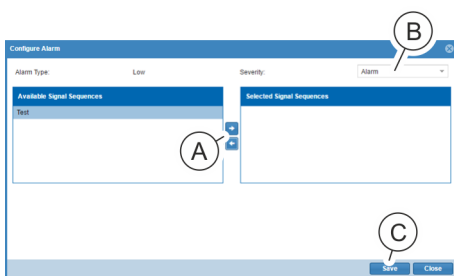

Fig. 131: “Configure alarm” window
8. ➔ Select a signal sequence in the “Configure alarm” window and use the “→” button (Fig. 131/Ⓐ) to move it into the “Selected signal sequences” field.
9. ➔ In the “Severity” selection field (Fig. 131/Ⓔ), select the alarm state “OK”, “Warning” or “Alarm” for the input.
10. ➔ Confirm the selection by clicking the “Save” (Fig. 131/Ⓒ) button.